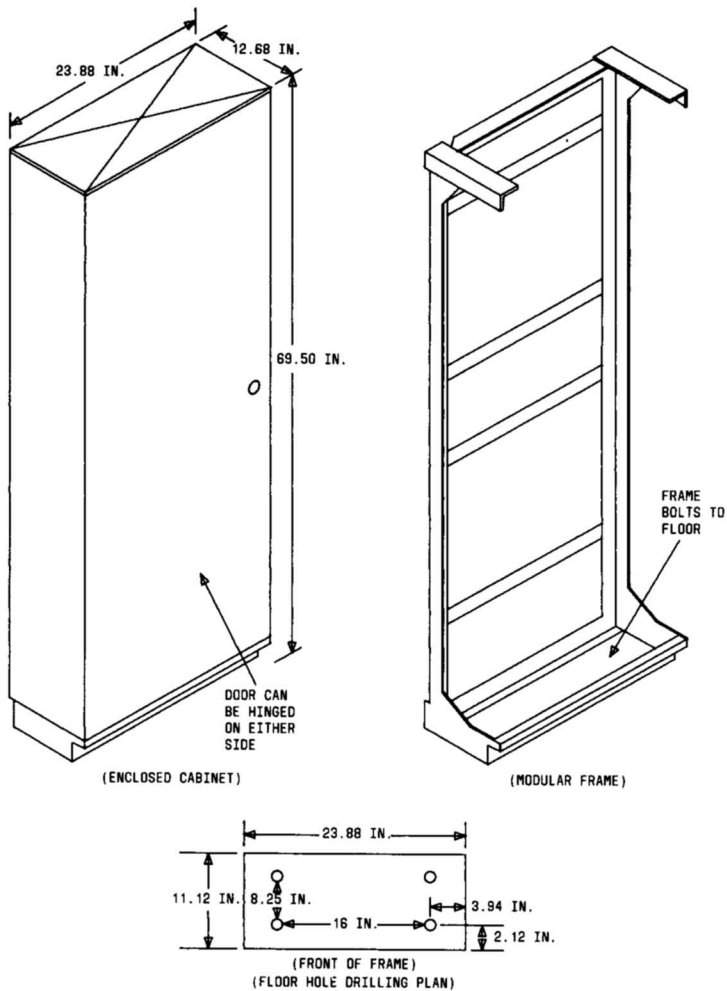

Fig. 19—50A Cabinet†
4.11 The 50A cabinet (Fig. 19) is specifically intended for holding 188P-type terminal blocks and 188-type backboards in installations of the Customer Administered Terminal Move Service (CATMS) where wall mounting is not desired. It consists of a modular frame and optional front/rear doors, side panels, and top cover to convert the open frame to an enclosed cabinet. Two full-size terminal blocks and one backboard can be mounted in the 50A cabinet. It can be installed in free-standing